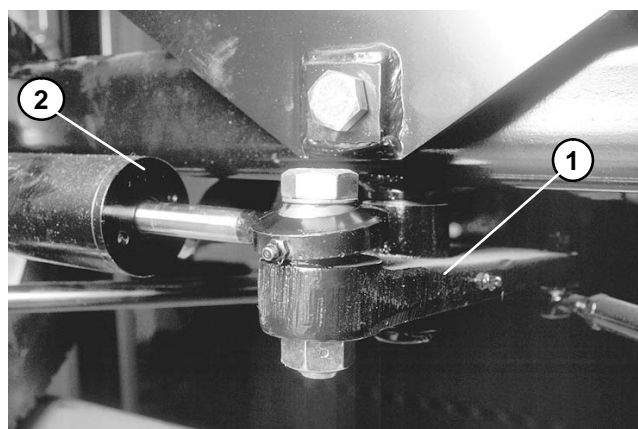

Figure 3
- A. On 2WD models, place jack securely under the pivot bracket for the steering cylinder (Fig. 3).